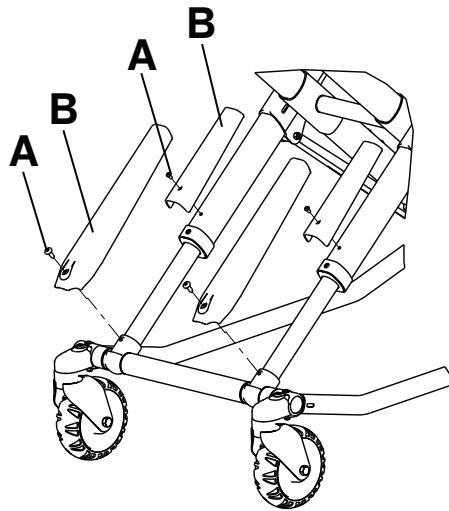

Figure 13 – Remove the truss head screws
2. Using a T27 Torx driver, remove the truss head screw (A) that secures the X-frame guard (B) to the inner tube (Figure 13). Save the screw.
4. Remove and save the outer tube X-frame guard (Figure 13).